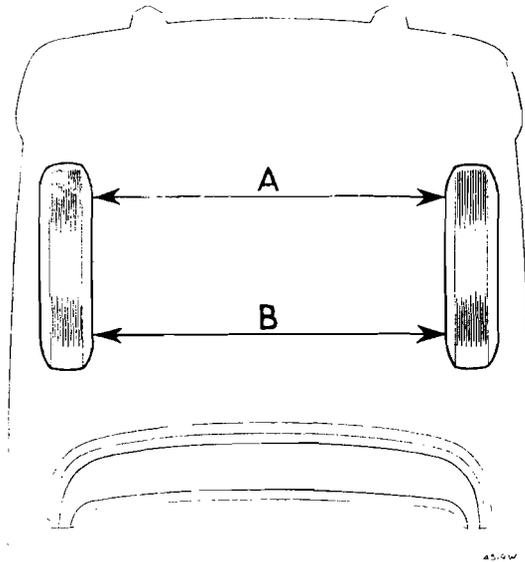

Fig. G.2
- (1) Turn the front wheels to the straight-ahead position and set both pointers of the alignment trammel against the inner rims of the wheels at centre height in front of the car ([A], Fig. G.2). Mark the points of contact of the pointers on the wheel rims, lock the trammel pointers, and withdraw the trammel.
- (2) Move the car forward so that the wheels make exactly half a revolution.
- (3) Place the trammel at the rear of the wheels so that one pointer registers with the mark on one of the
wheel rims ([B], Fig. G.2); the pointer on the other end should then be $\frac{1}{16}$ in. (1.6 mm.) away from the mark on the other wheel rim. This can be checked by measurement or preferably with a $\frac{1}{16}$ in. (1.6 mm.) gauge plate.